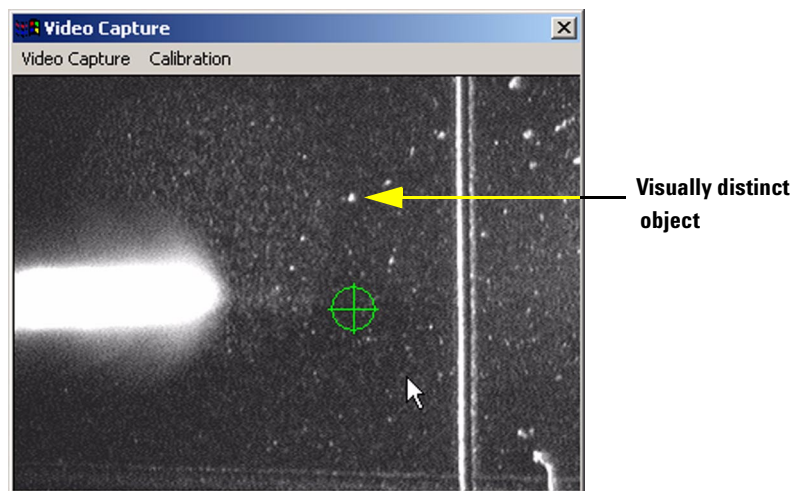
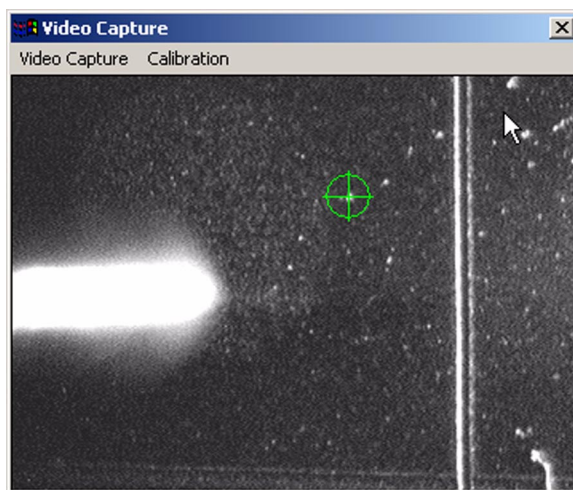

Figure 75 Video capture screen showing the location of the visually distinct object after step 4
Figure 76 Video Capture screen showing green target that was dragged over the visually distinct object in step 4
- 5 In step 4 of this calibration procedure, the Target Plate moves again, vertically (see Figure 75). Watch to where it moves, then drag and drop the green target icon over the same object. See Figure 76. Click **Next**.